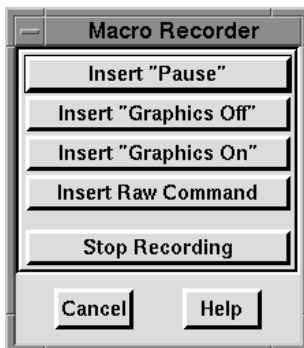

Figure 27-1. The Macro Recorder dialog.
3. Click OK to initiate the recording of the macro file. The Macro Recorder dialog now appears, as shown in Figure 27-1. This dialog must remain up during the recording session.